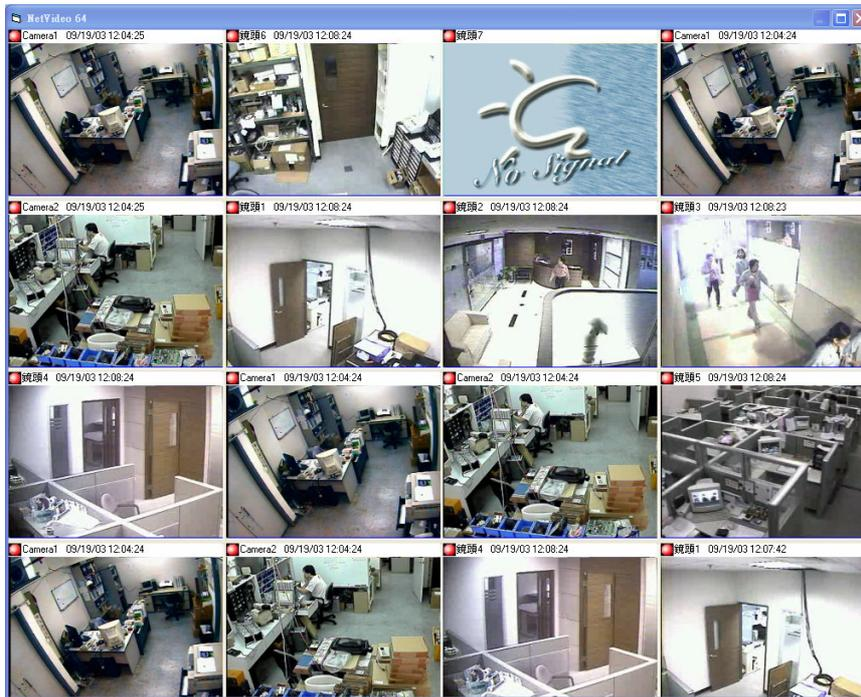

Figure 62-1 NetVideo 64 with 4x4 splits with total of 16 cameras
- vi. Lastly, press the button **Test**. On the MEGASYS SYSTEM desktop, user will get to see a window NetVideo 64 with splits of 4x4. The window shows 16 videos which are placed during setup as shown in Figure 62-1.